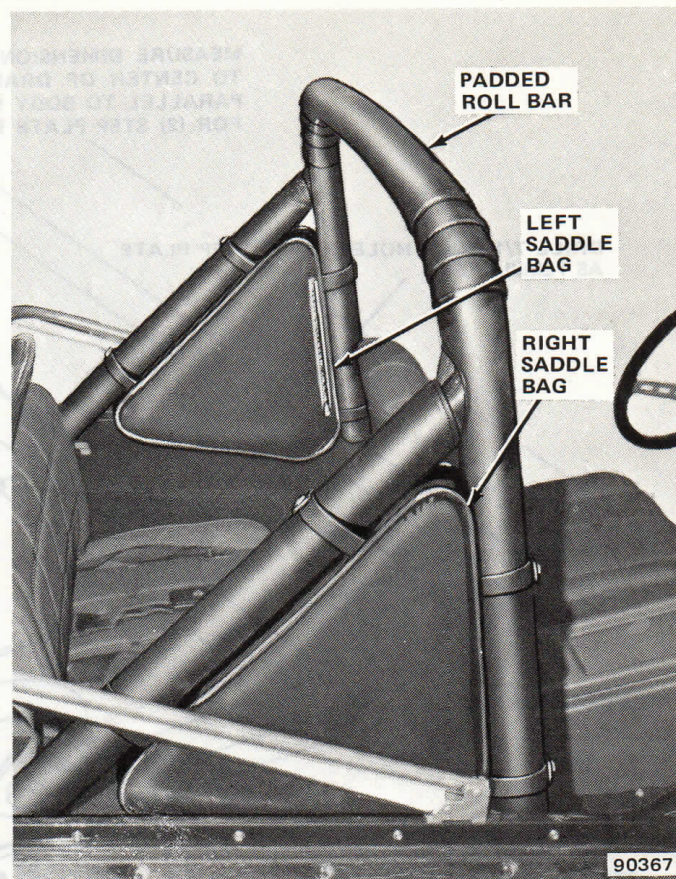

Fig. 17-5 Saddle Bags—Installation
(1) Place left saddle bag between roll bar main loop and left support brace and attach with tie straps (fig. 17-5).
(2) Place right saddle bag between roll bar main loop and right support brace and attach with tie straps.